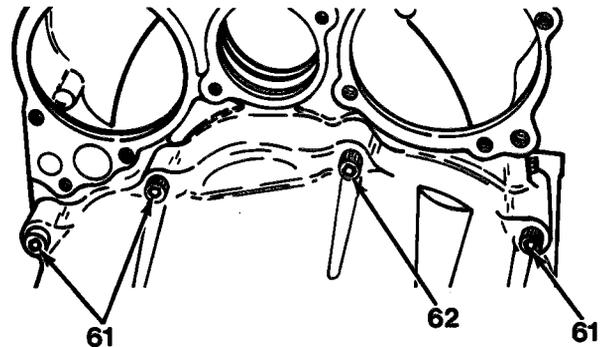

Figure 11-15
13. Invert transmission and install capscrew (62) and three capscrews (61, Figure 11-15) to secure front cover to transmission main case.